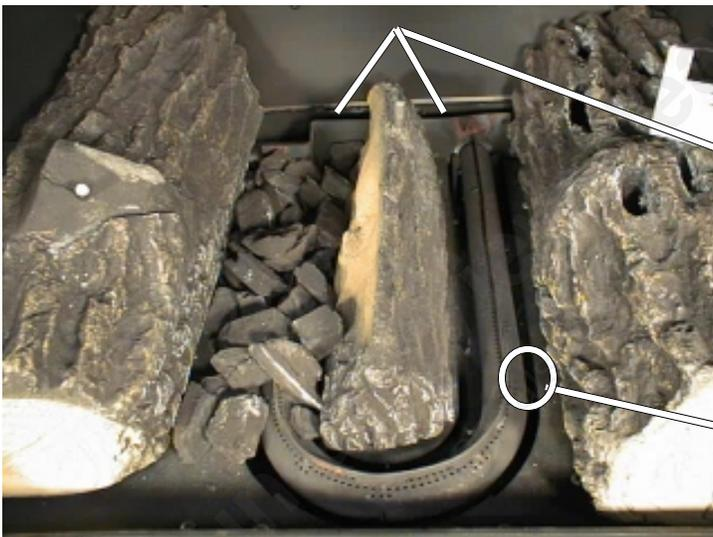

FIGURE 2
4. Empty nugget bags on a paper towel or other discardable surface, and place nuggets randomly on top of the "U" burner. Cover entire burner evenly with a single layer of nuggets. See FIGURE 2